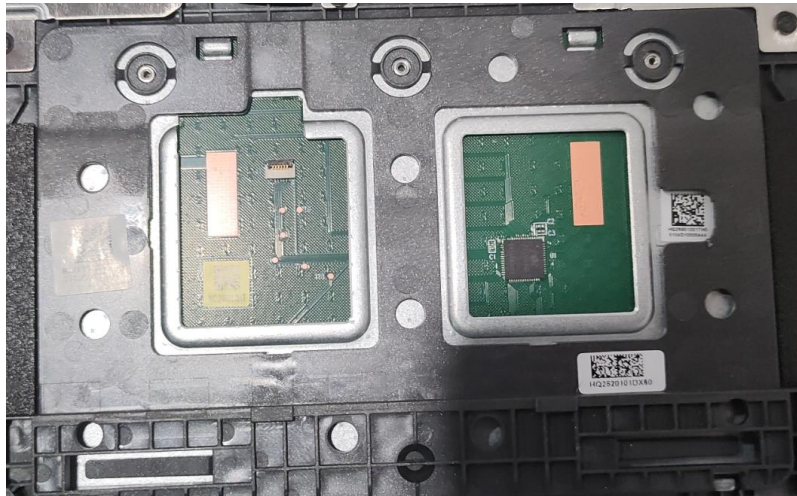

Figure 3-81. Replacing the Touchpad Module
1. Slide the touchpad module into the bottom latches until those are fully engaged (Figure 3-81).
2. Ensure that the touchpad module is properly aligned with the guide pins, push the touchpad module firmly onto its slot until it is fully seated in place (Figure 3-81).